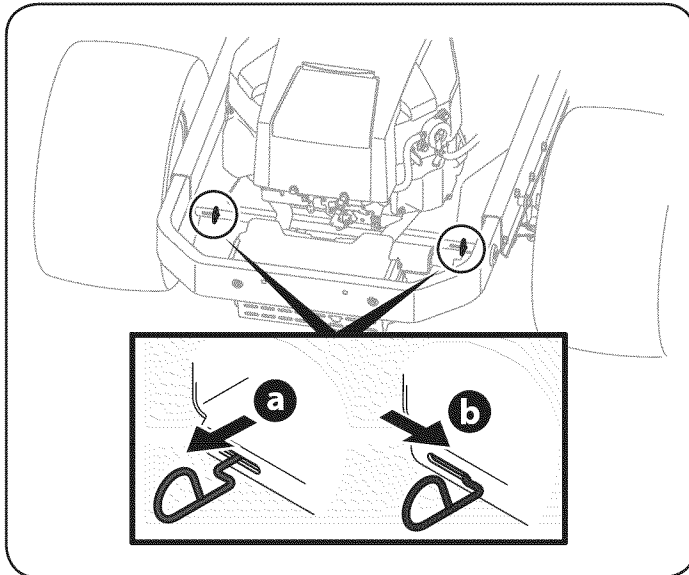

Figure 22
1. Locate the hydrostatic bypass rod in the rear of the riding mower. See Figure 22.
2. Engage the bypass rods by pulling each one out (a) and to the right (b) to lock it into place. See Figure 22.
3. Disengage the bypass rods by reversing steps a & b after moving the tractor. See Figure 22.